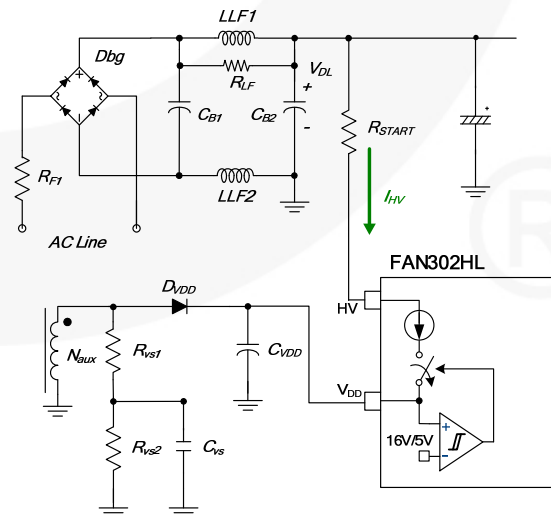
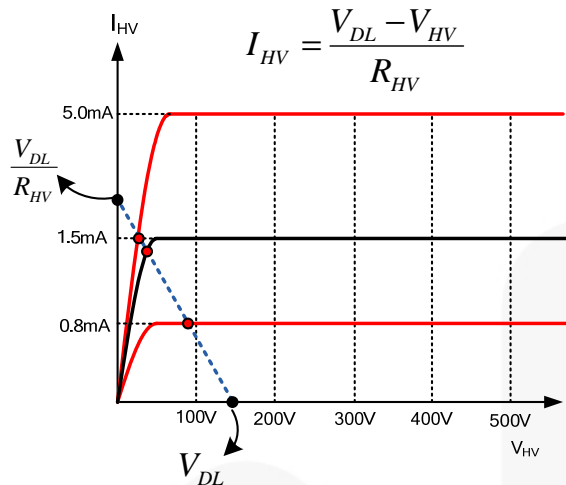

Figure 33. HV Startup Circuit
Figure 34. V-I Characteristics of HV Pin
Figure 33 shows the high-voltage (HV) startup circuit. Internally, JFET is used to implement the high-voltage current source, whose characteristics are shown in Figure 34. Technically, the HV pin can be directly connected to the DC link ( $V_{DL}$ ). To improve reliability and surge immunity, it is typical to use about a 100 k $\Omega$  resistor between the HV pin and the DC link. The actual HV current with given DC link voltage and startup resistor is determined by the intersection of V-I characteristics line and load line, as shown in Figure 34.